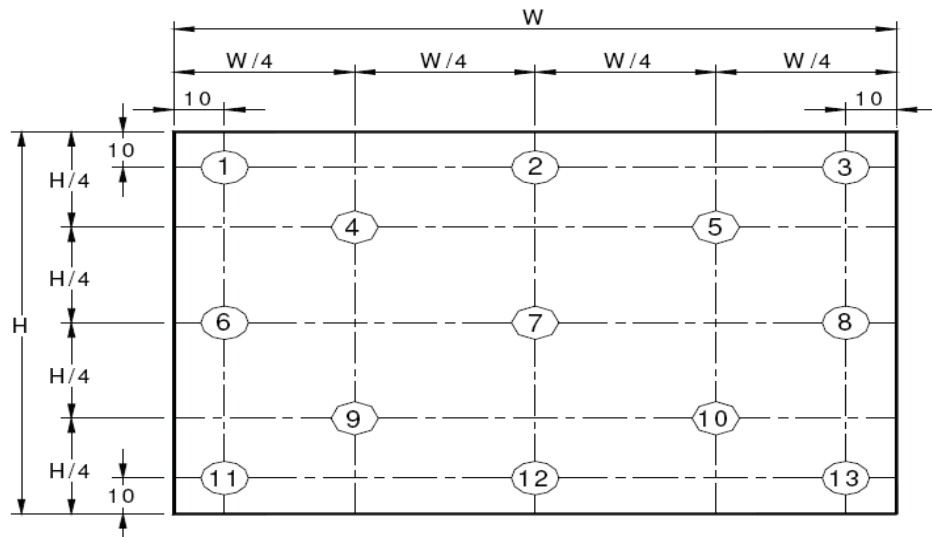

Figure 9. Uniformity Measurement Locations (13 points)
<p>Notes :</p> <ol style="list-style-type: none">Viewing angle is the angle at which the contrast ratio is greater than 10. The viewing angles are determined for the horizontal or 3, 9 o'clock direction and the vertical or 6, 12 o'clock direction with respect to the optical axis which is normal to the LCD surface (see Figure 7).Contrast measurements shall be made at viewing angle of $\Theta = 0$ and at the center of the LCD surface. Luminance shall be measured with all pixels in the view field set first to white, then to the dark (black) state . (see Figure 7) Luminance Contrast Ratio (CR) is defined mathematically.$CR = \frac{\text{Luminance when displaying a white raster}}{\text{Luminance when displaying a black raster}}$Center Luminance of white is defined as luminance values of 5 point average across the LCD surface. Luminance shall be measured with all pixels in the view field set first to white. This measurement shall be taken at the locations shown in Figure 8 for a total of the measurements per display.The White luminance uniformity on LCD surface is then expressed as : $\Delta Y = \text{Minimum Luminance of 5(or 13) points} / \text{Maximum Luminance of 5(or 13) points.}$(see Figure 8 and Figure 9).The color chromaticity coordinates specified in Table 5 shall be calculated from the spectral data measured with all pixels first in red, green, blue and white. Measurements shall be made at the center of the panel.The electro-optical response time measurements shall be made as Figure 10 by switching the “data” input signal ON and OFF. The times needed for the luminance to change from 10% to 90% is T_r, and 90% to 10% is T_r.Cross-Talk of one area of the LCD surface by another shall be measured by comparing the luminance (YA) of a 25mm diameter area, with all display pixels set to a gray level, to the luminance (YB) of that same area when any adjacent area is driven dark. (See Figure 11).
The White luminance uniformity on LCD surface is then expressed as : $\Delta Y5$ = Minimum Luminance of five points / Maximum Luminance of five points (see Figure 8) , $\Delta Y13$ = Minimum Luminance of 13 points /Maximum Luminance of 13 points (see Figure 9).